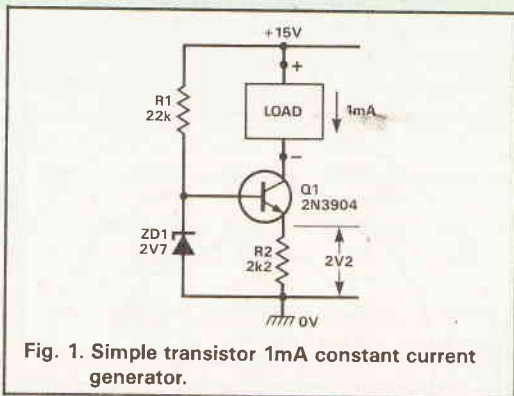
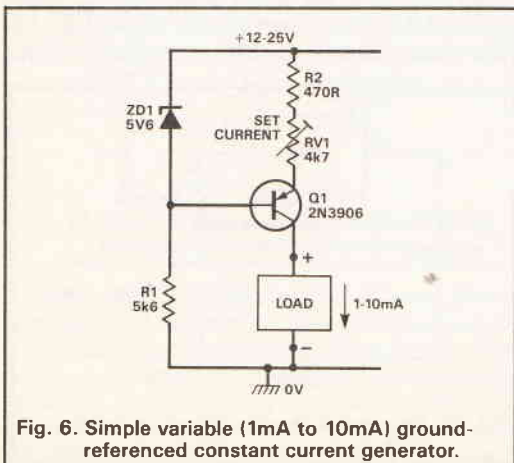

Fig. 1. Simple transistor 1mA constant current generator.
Fig. 6. Simple variable (1mA to 10mA) ground-referenced constant current generator.
Constant current generators (CCGs) are, as the name implies, circuits that generate a constant load current irrespective of wide variations in load resistance or voltage. Figure 1 shows a
Figure 2a shows the standard symbol used to represent a constant current generator (i.e. the collector-to-ground path of Figure 1); note that the symbol does not indicate the nature of the CCG's circuitry. The most important parameters of a practical CCG are its nominal operating current value and its dynamic impedance (Z). This last parameter represents the current regulation accuracy, as shown by the formula of Figure 2b; thus, if the Figure 1 circuit has a Z value of 1M, its current varies by 1μA per volt change on Q1's collector.
Bipolar transistors can easily be configured to act as efficient CCGs, as already shown in Figure 1. This basic circuit can readily be altered in a variety of ways to give different characteristics. Figure 6, for example,